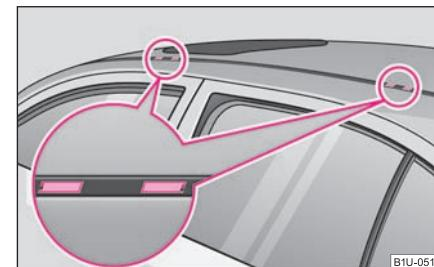

Fig. 80 Attachment points for base roof carrier
- The plastic caps ⇒ fig. 80 can be removed by inserting a thin screwdriver into the recess of the caps and carefully lever out the caps to avoid paint damage.